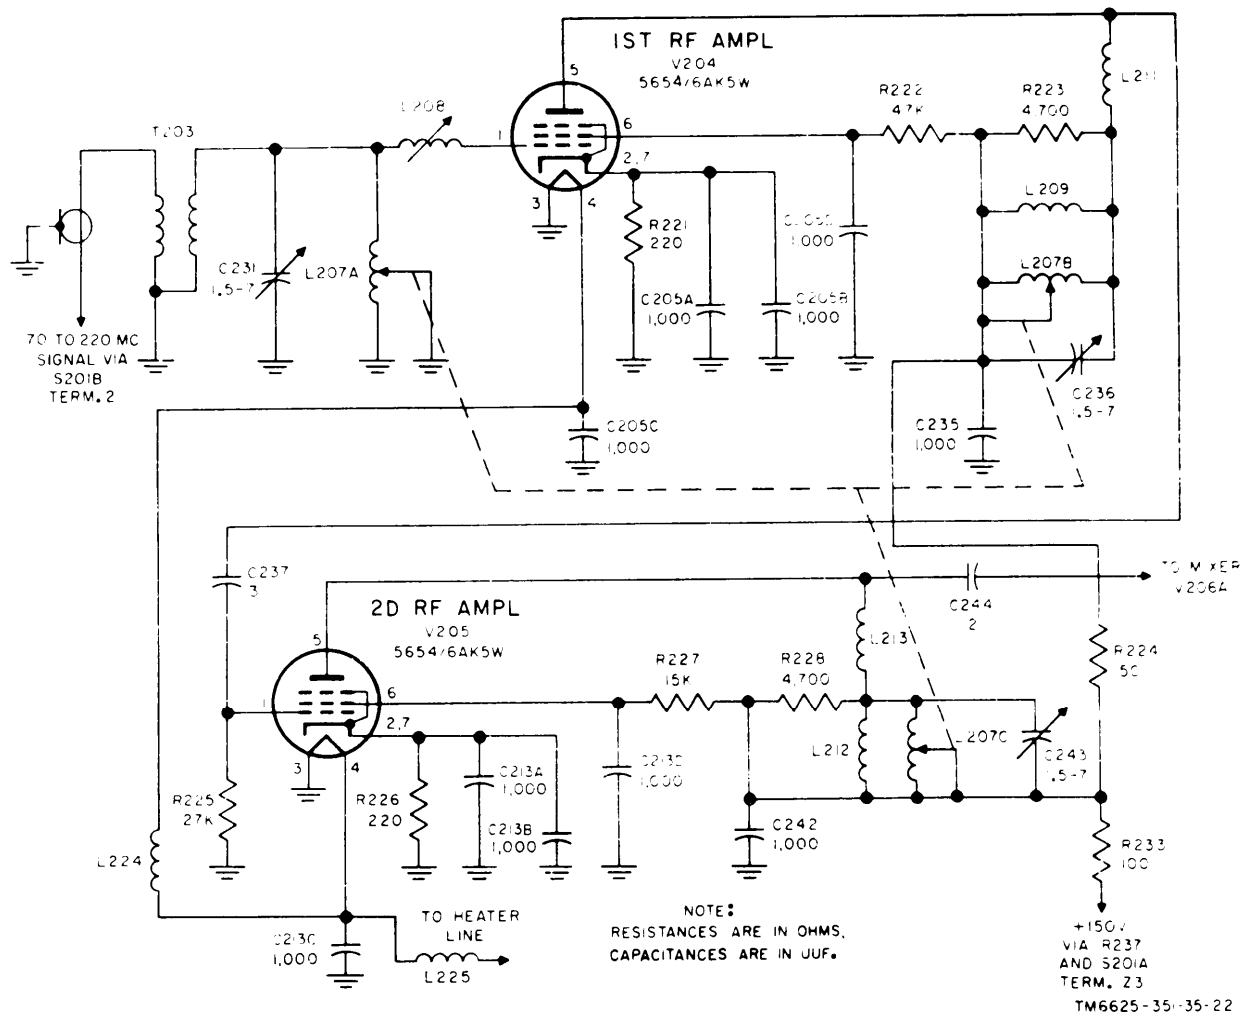

Figure 23. First and second rf amplifiers (70-220 mc), schematic diagram.
37. Rf Tuner, Analysis of 70-220-Mc Amplifiers (fig. 23)